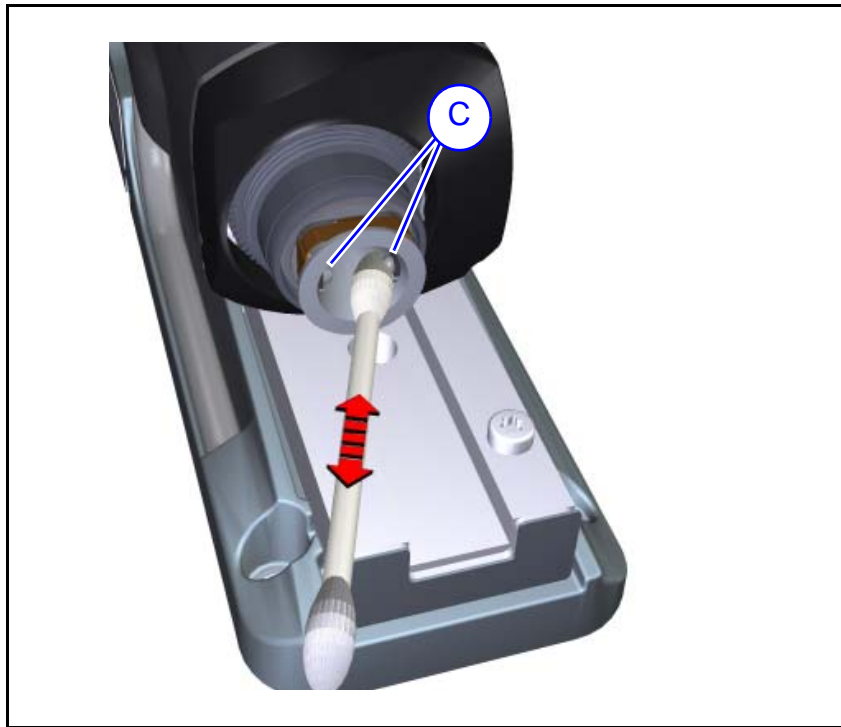

Figure 16-35. Force sensor diodes.
4. Gently clean the two force sensor diodes ('C' in Figure 16-35) from dirt and dust. Start with a Q-tip slightly wet in alcohol and then complete the cleaning using a dry Q-tip.